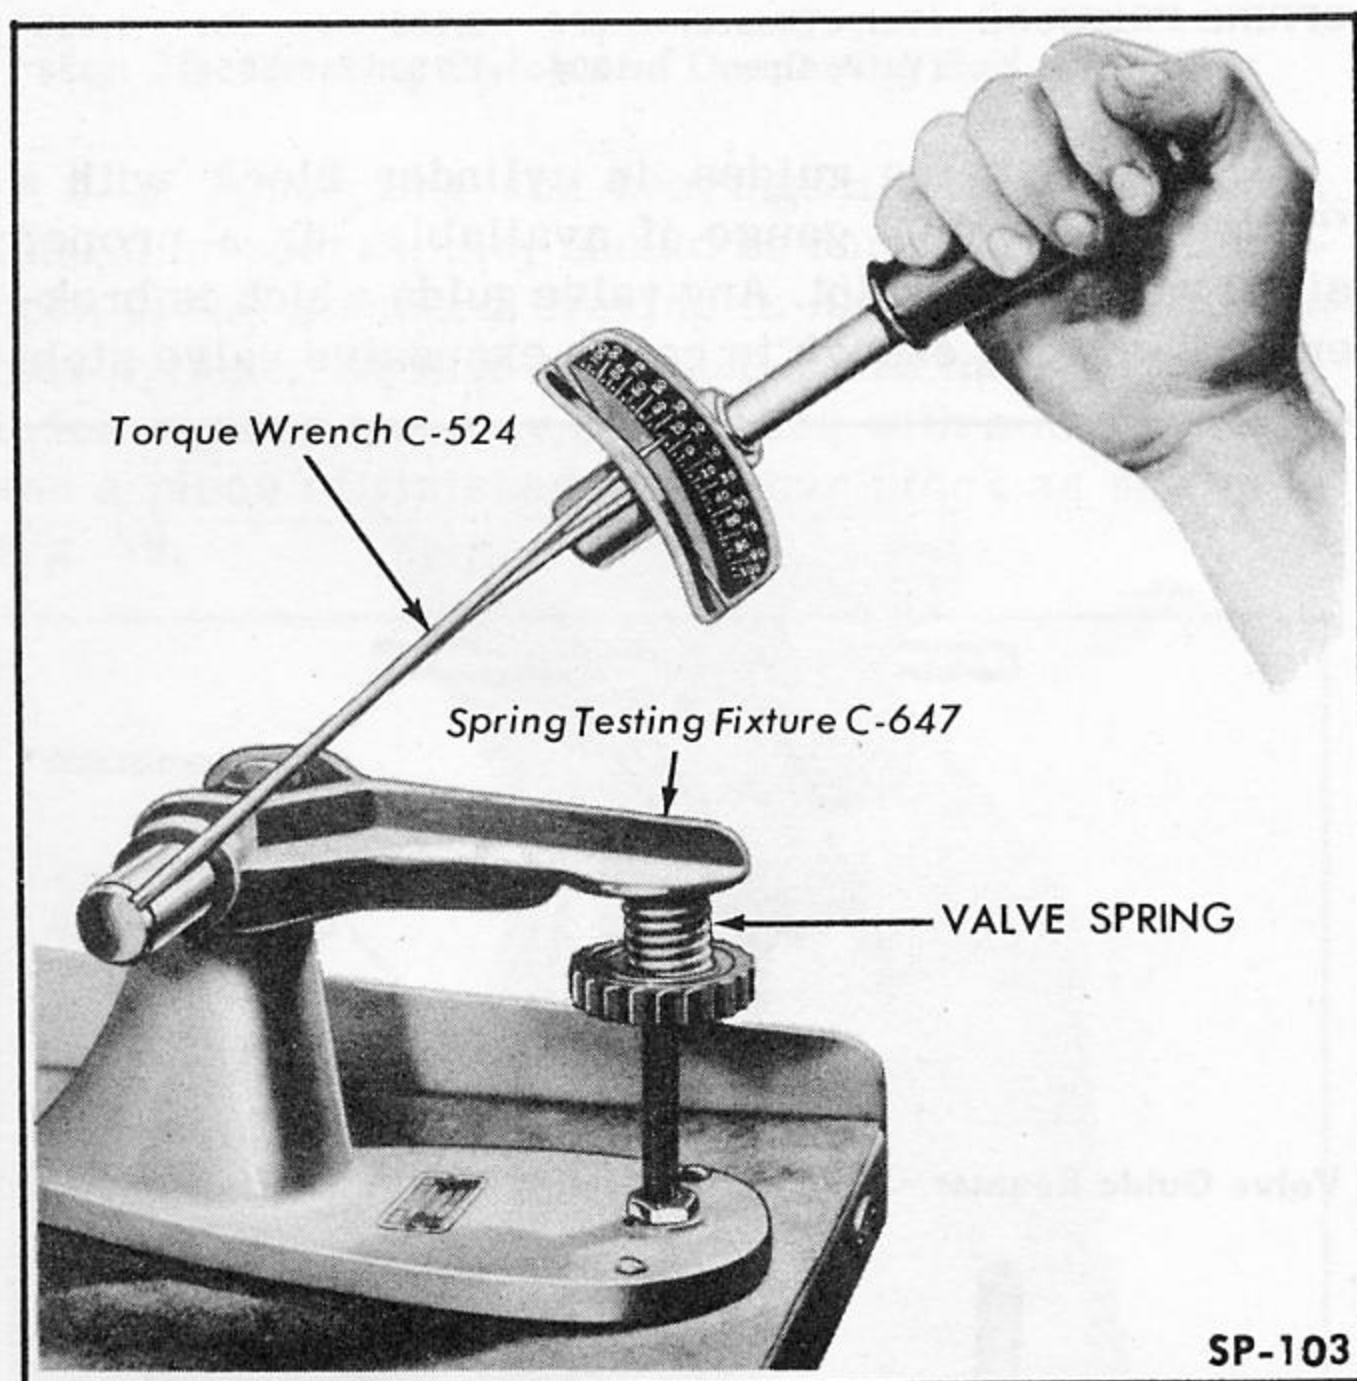

Fig. 43—Testing Valve Spring
4. Valve springs must be thoroughly cleaned and tested, using Spring Testing Fixture C-647 and Torque Indicating Wrench C-524 (Fig. 43). Check pressure of spring both at the open and the closed lengths as specified in the above chart. When using the recommended spring checking fixture, the "pounds" pressure is obtained by multiplying torque wrench reading (in "foot-pounds") by two. Replace springs that are not within specifications.